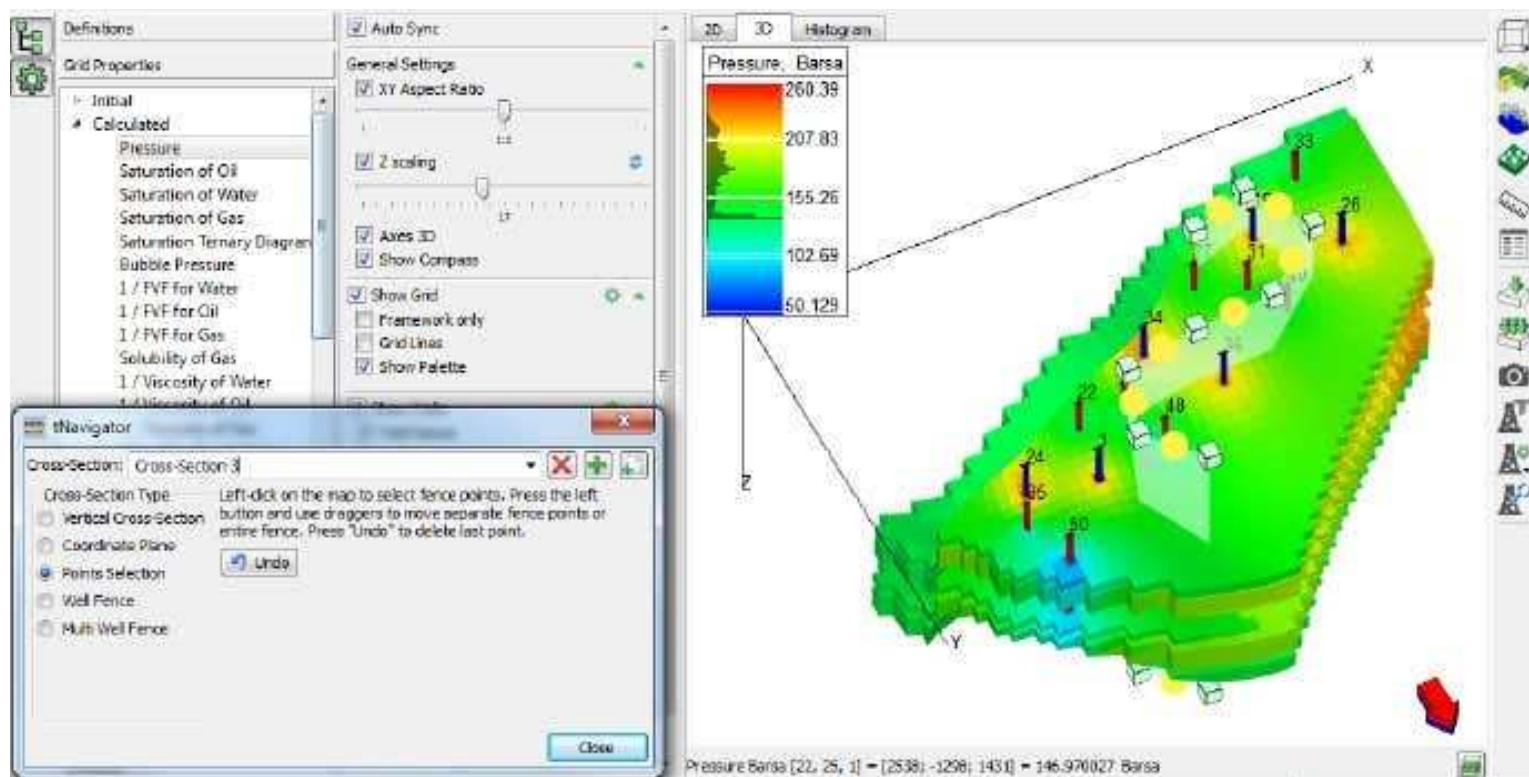

Figure 32. A points fence.
3. Click the property to select the points for the construction of cross-section – figure32.